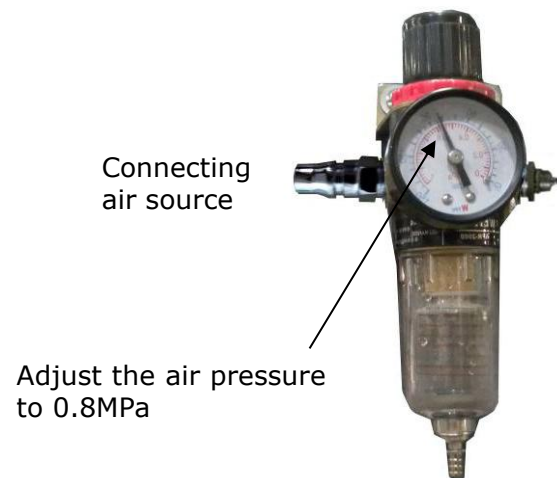

Fig. 17
5. Connecting the air source (air pressure 5kg/cm²- 8kg/cm²), adjust the air pressure to 0.8MPa (**See Fig. 17**).